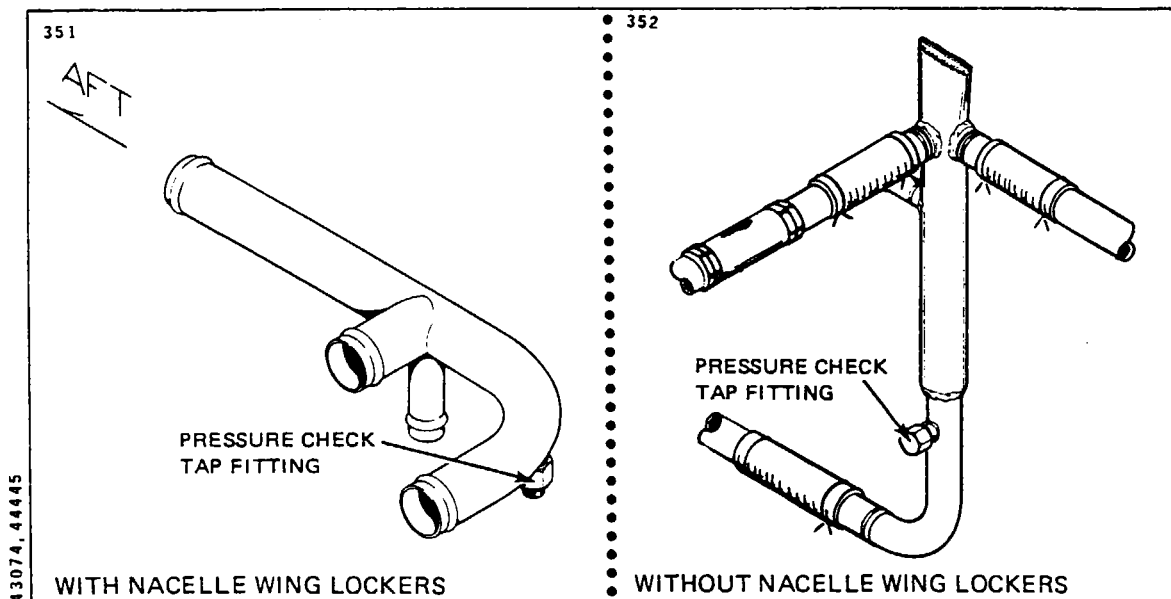

Figure 10-5. Test Take-off
b. At the pneumatic manifold in the left side of the nacelle remove the cap from the tap fitting and install pressure gauge. An accurate gauge with a range from 0 to 20 psi with a hose long enough to allow the face of the gauge to be observed from the cockpit is desired. The tap fitting is three-sixteenth straight thread flared. (Refer to Figure 10-5.)
- b. At the pneumatic manifold in the left side of the nacelle remove the cap from the tap fitting and install pressure gauge. An accurate gauge with a range from 0 to 20 psi with a hose long enough to allow the face of the gauge to be observed from the cockpit is desired. The tap fitting is three-sixteenth straight thread flared. (Refer to Figure 10-5.)